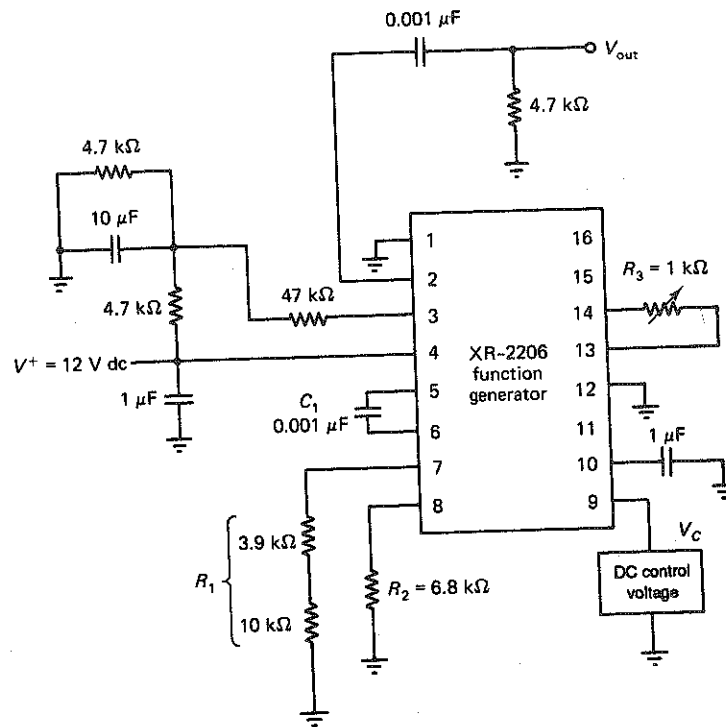

FIGURE 22-3 FSK generation, timing resistor mode.
1. Construct the binary FSK modulator circuit shown in Figure 22-3.
In this section the XR-2206 function generator operating in the timing resistor mode is used to generate binary FSK. The schematic diagram for the FSK modulator circuit used in this section is shown in Figure 22-3. In the timing resistor mode, the XR-2206 is operated with two separate timing resistors ( $R1$  and  $R2$ ) connected to timing pins 7 and 8, respectively. Depending on the voltage level of the input signal on pin 9, either  $R1$  or  $R2$  is connected to the internal VCO. If pin 9 is open circuited or connected to a voltage greater than or equal to the switching voltage,  $R1$  is activated. If pin 9 is connected to a voltage less than the switching voltage,  $R2$  is activated. The switching voltage varies between +1 and +2 volts depending on the specific chip, with 1.4 V being a typical value. Therefore, if a binary digital signal that varies above and below approximately 1.4 V is applied to pin 9, the function generator output signal is keyed between two frequencies (mark and space). In essence, the VCO free-running frequency is switched (as opposed to deviated) between the mark and space frequencies at a rate that is equal to the rate of change of the binary input signal. This method of generating FSK is sometimes called frequency switch keying.